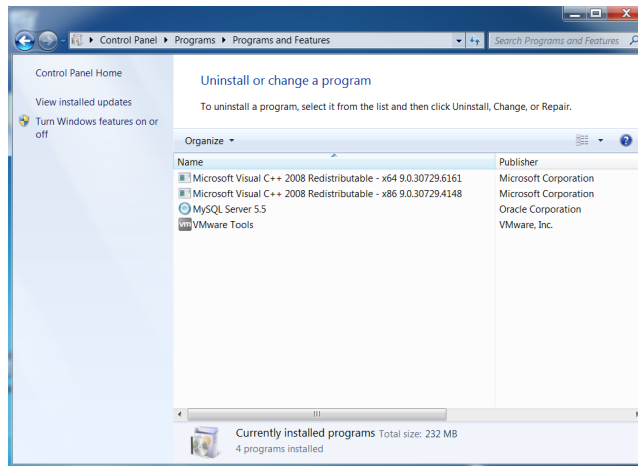

Figure B3
3. Select Programs and Features (Figure B3).